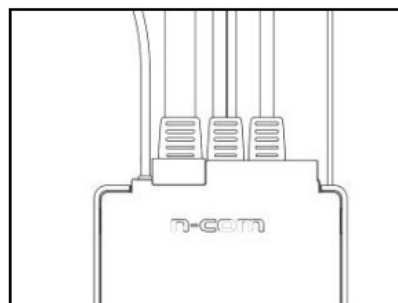

Fig. 7
- Gently position the connector in its seat until it is all the way in (Fig. 7).